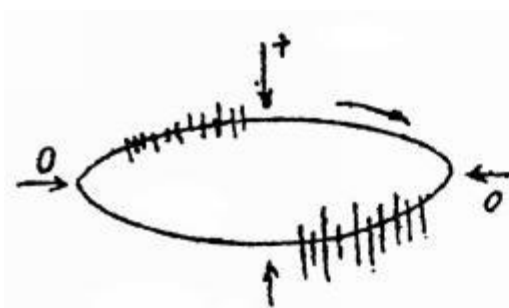
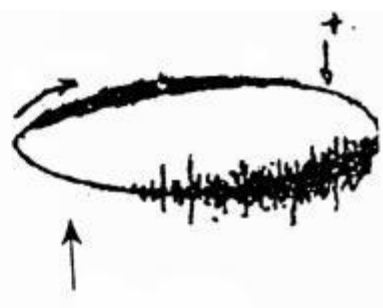

Fig 6a
Fig 6b
(2) For the discharge of bubbles between metal and dielectric (see Fig. 6a), the waveform characteristics are as follows: there are many discharges with small amplitude in the positive half cycle and a few discharges with large amplitude in the negative half cycle, and the amplitude difference can reach 10:1. Others are the same as above. A typical example is the discharge of polyethylene cable with poor adhesion between insulation and conductor. If the discharge amplitude increases with the increase of the test voltage, and the discharge waveform becomes fuzzy, it often contains multiple bubbles of different sizes, or the discharge occurs between the exposed metal and the dielectric surface (see Fig. 6b).